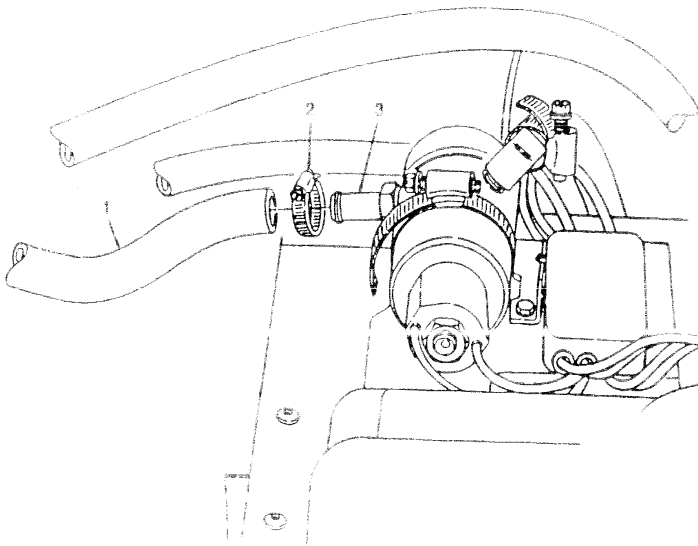

FIGURE 3-8
- C. Loosen clamp (2) and remove hose (1) from fitting (3). (see figure 3-8)
- I. Connect hose (1) to fitting (3) and secure with existing clamp (2). (see figure 3-8)